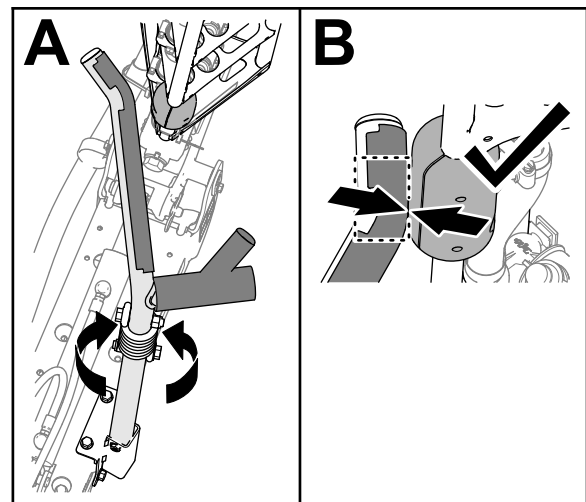

Figure 108
4. Rotate the cradle assembly until the bend in the cradle tube aligns with the slide block on the top tube of the outer boom (Figure 108)
Note: The blocks must contact the cradle at the bend in the upper cradle tube (Figure 108).